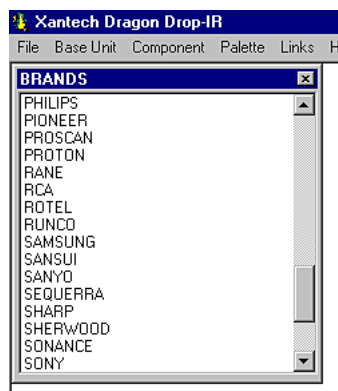

Figure 2 - Brands
2. Locate and Select (single click) the desired BRAND as shown in **Figure 2** (i.e. Sony, Panasonic etc). A list of Components will appear. (See later sections for adding brands.)